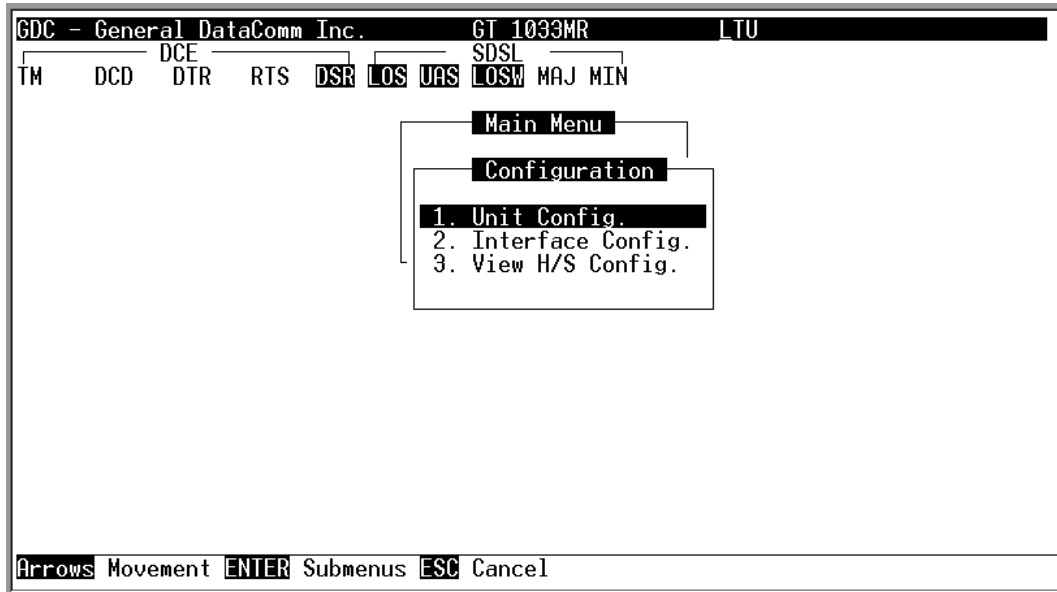

Figure 3-7 Configuration Screen
To open the Configuration menu (see Figure 3-7), select item 2 on the Main Menu. The configuration options are explained in Table 3-8.